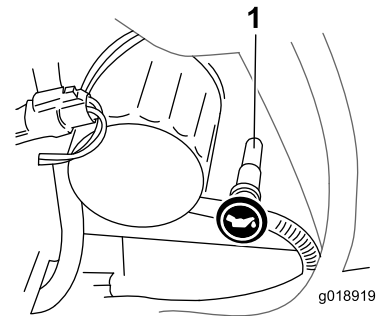

Figure 22
4. Clean around the oil dipstick (Figure 22).
5. Pull out the dipstick and wipe the metal end clean (Figure 22).
6. Slide the dipstick fully into the dipstick tube (Figure 22).